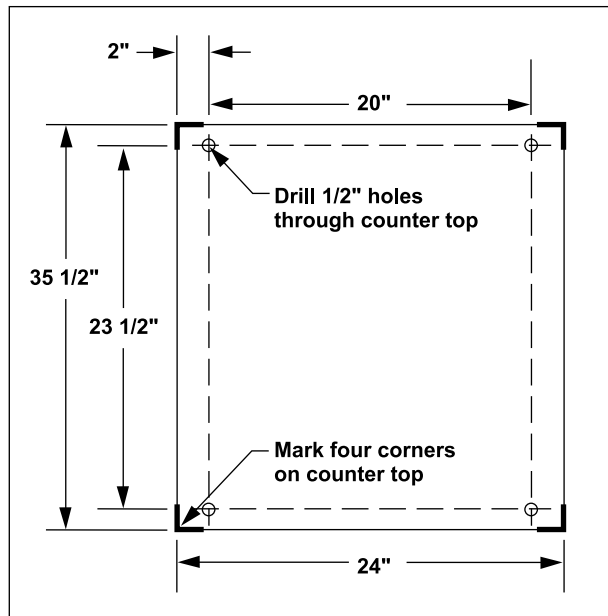

Figure 1
1. Place steamer in the desired location on the countertop and mark four corners. Remove the steamer and drill $\frac{1}{2}$ " holes as indicated in Figure 1.